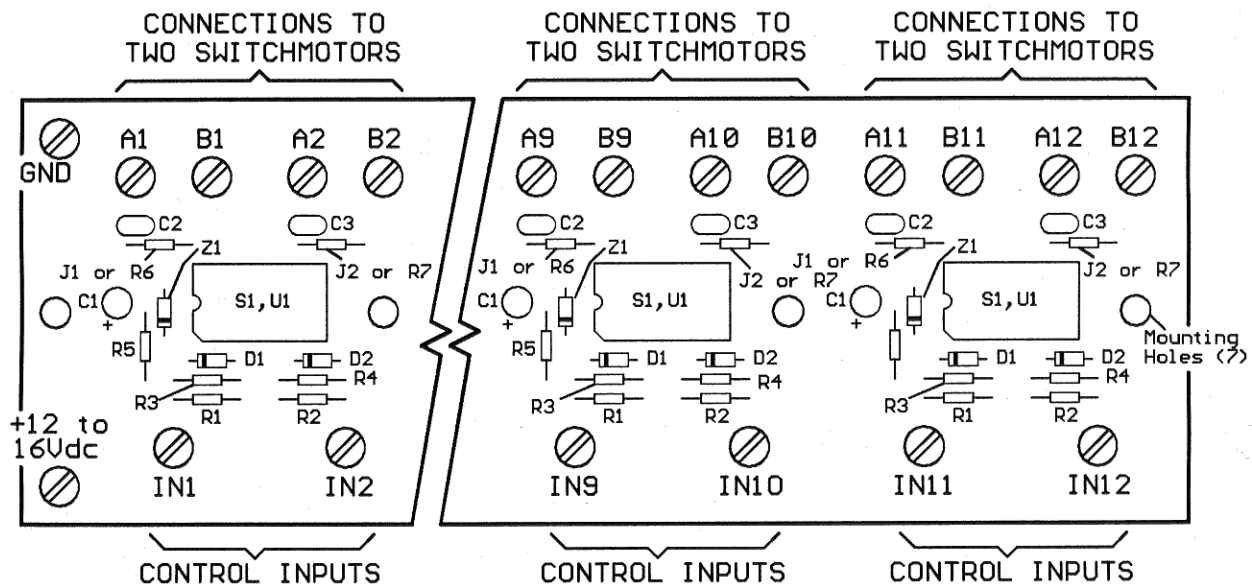

Fig. 1. SMC12 Parts Layout
Each SMC12 card can control up to 12 low-current stall-type switchmotors. It does this by employing 6 identical circuits per card where each circuit controls 2 stall-motors. Fig. 1 shows the card’s parts layout for 3 of the 6 circuits. Each set of A and B numbered terminals connect directly to a switchmotor which is then controlled by the correspondingly numbered control input. For example, pull input line IN1 low causes A1 and B1 to reverse polarity. Pull IN2 low causes A2 and B2 to reverse polarity up to pulling IN12 low reverses the polarity of A12 and B12.
Table 1 gives the parts list for the SMC12 and the parts layout is shown back in fig. 1. Ready-to-assemble SMC12s are available from JLC Enterprises and complete kits as well as assembled-and-tested cards from EASEE Interfaces. Six circuits, each controlling 2 stall motors, can be built on each card, and because all are identical I've repeated the parts nomenclature from circuit to circuit. The parts list quantities are for one circuit. Thus to built up a complete card you need to multiply all the quantities shown in Table 1 by 6 plus add 2 extra screws and nuts for the card's power connections.
- Board orientation. Make certain that all parts are installed from the top, i.e. the A-side, of the board. Because the board looks almost identical with either side facing you, it is vitally important that during assembly, you have the board exactly oriented as shown in Fig. 1, i.e. with the power terminals located to your left and the dual-output switchmotor terminak along the top edge.
- D1, D2 [+]. Install these diodes making sure that the banded end is oriented as shown in Fig. 1.
- Z1[+]. Install this Zener diode making sure that the banded end is oriented as shown in Fig. 1.